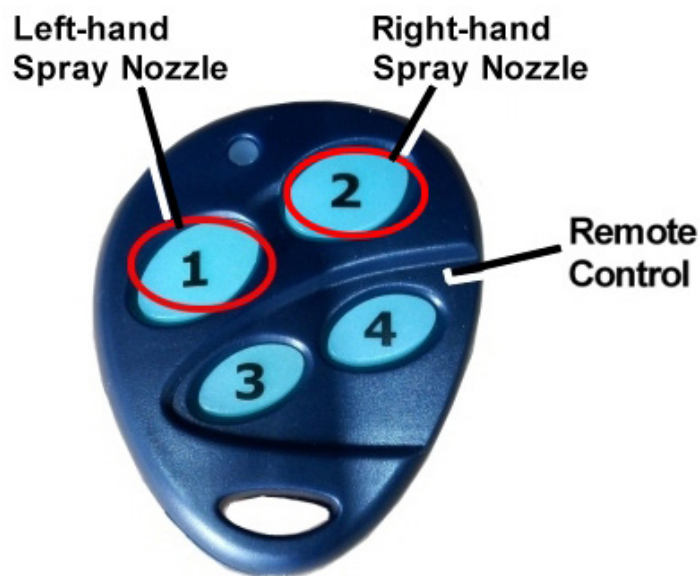

Figure 9 – BoomJet Side Spray Kit's Solenoid Operated Valve ON-OFF Remote Control
- Facing in the direction of travel, Button 1 will operate the left-hand side spray BoomJet nozzle (Figure 9), Button 2 will operate the right-hand nozzle. From the driver's seat, press the required button(s) on the remote control to switch the solenoid operated valve to ON. The fluid will now start to discharge from the Versatile boom spray nozzle(s).